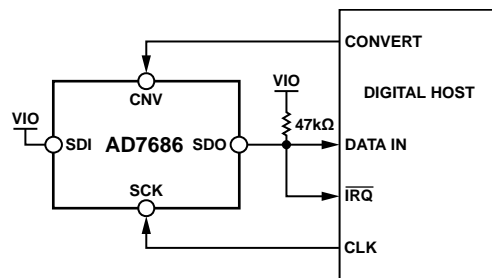
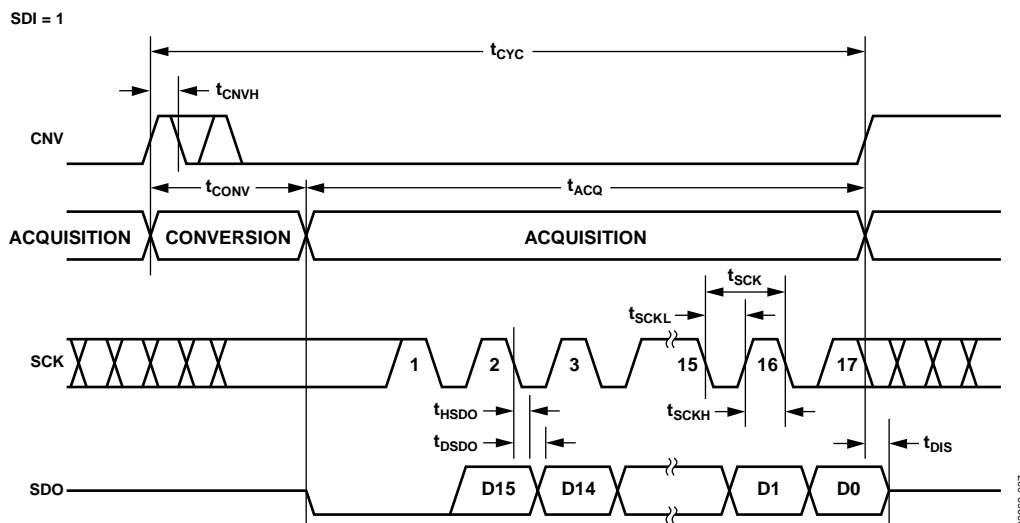
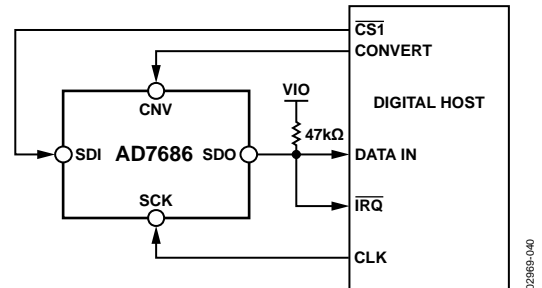
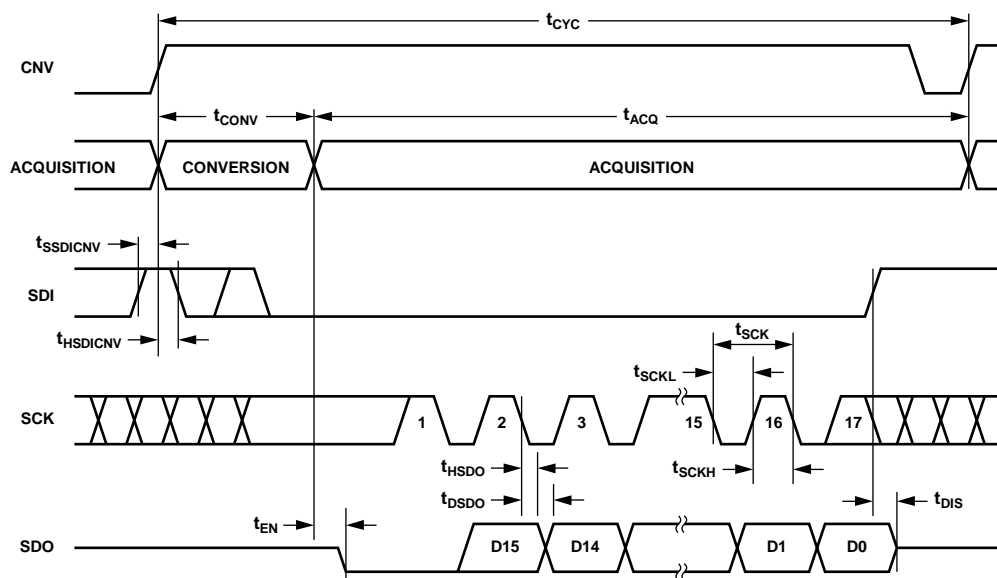

Figure 35.  $\overline{\text{CS}}$  Mode 3-Wire with Busy Indicator Connection Diagram (SDI High)
Figure 36.  $\overline{\text{CS}}$  Mode 3-Wire with Busy Indicator Serial Interface Timing (SDI High)
Figure 39.  $\overline{CS}$  Mode 4-Wire with Busy Indicator Connection Diagram
Figure 40.  $\overline{CS}$  Mode 4-Wire with Busy Indicator Serial Interface Timing
- In  $\overline{CS}$  mode, if CNV or SDI is low when the ADC conversion ends (see Figure 36 and Figure 40).
This mode is generally used when a single AD7686 is connected to an SPI-compatible digital host having an interrupt input. The connection diagram is shown in Figure 35, and the corresponding timing is provided in Figure 36.
This mode is usually used when a single AD7686 is connected to an SPI-compatible digital host, which has an interrupt input, and when it is desired to keep CNV, which is used to sample the analog input, independent of the signal used to select the data reading. This requirement is particularly important in applications where low jitter on CNV is desired. The connection diagram is shown in Figure 39, and the corresponding timing is provided in Figure 40.